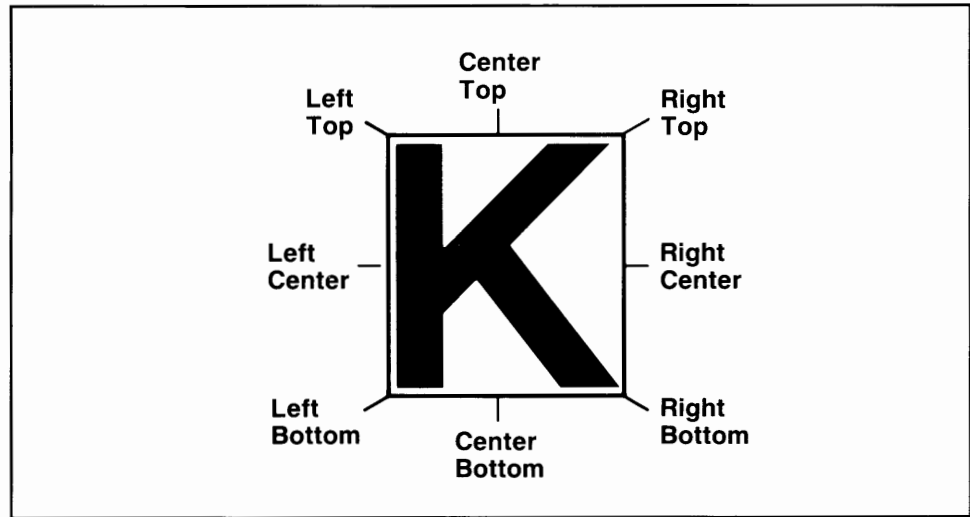

Figure 2-5. Character Alignment Points
- The Set Graphic Text Alignment routine aligns the text on the character, not on the cell grid, as shown in Figure 2-5.